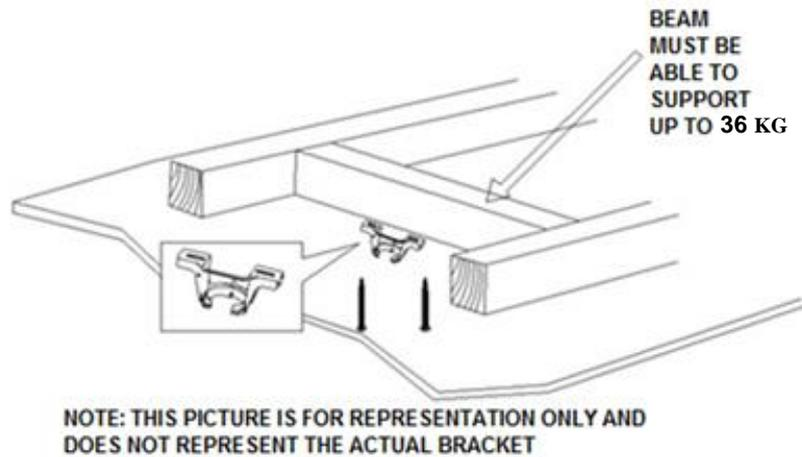

Fig. 2
- Install the hanging bracket to the ceiling joist or structure that is capable of carrying a load of at least 36 kg, with two long screws provided. Ensure at least 30mm of the screw is threaded into the support. (Fig. 2)